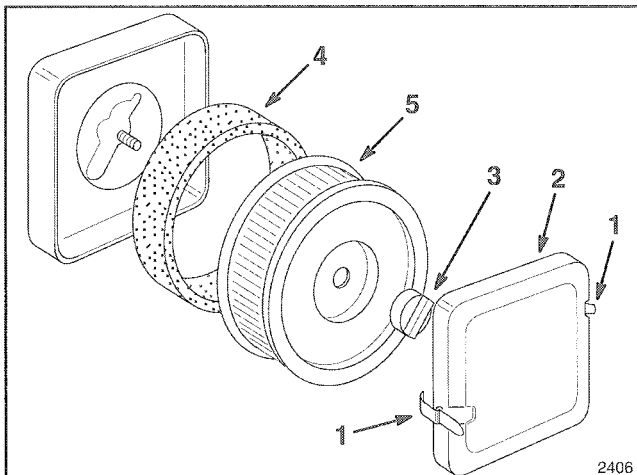

Figure 14
1. Pull out on the retaining tabs and remove the air cleaner cover (Fig. 14).
2. Unscrew the knob and remove air cleaner assembly (Fig. 14).
3. Remove foam pre-cleaner by sliding it off the paper cartridge (Fig. 14).